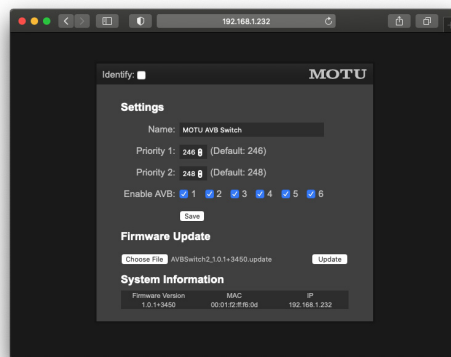

Figure 2-4: The switch settings.
- 6 Click *Open Pro Audio Control* next to the switch to access its settings (Figure 2-4).
- 7 In the *Enable AVB* section (Figure 2-4), check or uncheck each port as desired for AVB or non-AVB operation (respectively).
Each switch can be accessed individually from the AVB Discovery app. You can use the *Identify* button at the top of the Settings page (Figure 2-4) to confirm which switch you are configuring. When you click *Identify*, the switch's power LED flashes.